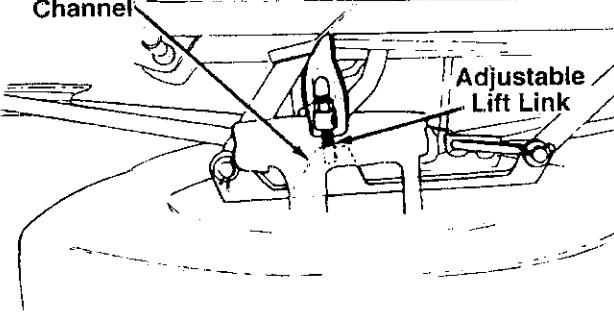

FIGURE 4
- 2 Pull the adjustable lift link out of the deck hanger channel. See figure 4. Turn the adjustable lift link up or down as necessary to level the deck. Usually only one or two turns are needed.